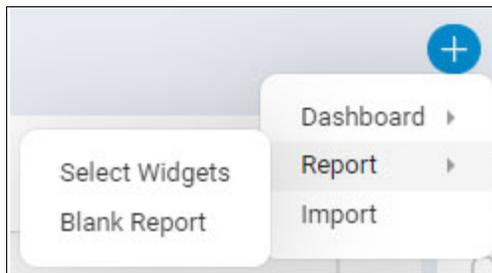

Figure 5-133 Creating a report
2. Click **+** on the right side of the subnavigation bar and select **Report** → **Select Widgets** (Figure 5-133).